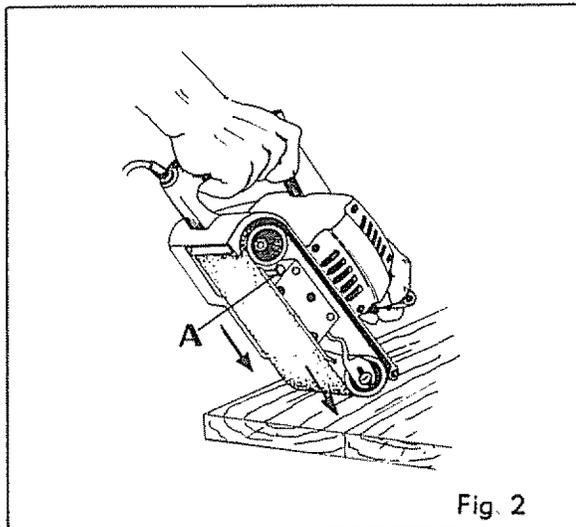
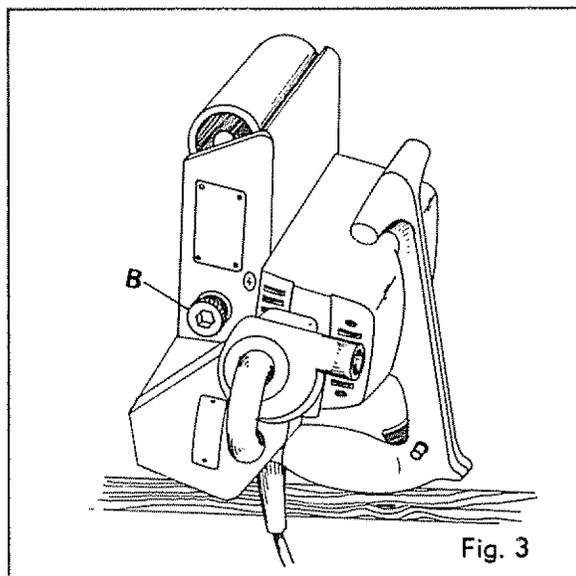

Fig. 2
Fig. 3
1. Release tension on belt by pushing the front pulley squarely against the top or edge of workbench (See Fig. 2). When the pulley is pushed back it will lock in that position, allowing slack in the belt so it can be removed. **NOTE:** Idler pulley rubbing housing when in the released position, without sandpaper, does not damage tool operation. The sanding belt, when assembled, will not allow pulley to project as far.
3. Make sure fingers are not in a position to get mashed. Pull hard on lever (A) until pulley is released and tension is applied to belt. The lever will move freely at first and then become harder to pull.
4. To adjust belt, connect sander to power supply. Stand sander on end as illustrated (See Fig. 3). Pull switch trigger and release immediately while observing tracking of belt.
5. If belt runs outward, turn tracking screw (B) clockwise and counterclockwise if belt runs inward. This should be done until you are sure belt will not come in contact with rub strip.
6. Start sander and fine adjust the tracking screw (B) until belt stabilizes. When correctly adjusted, the outer edge of the belt will be even with outer edge of wear plate.